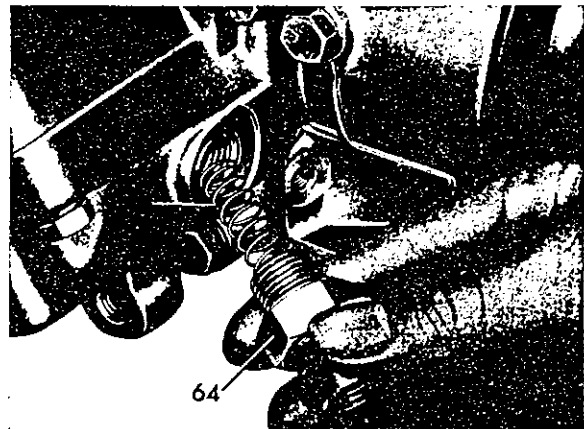

Fig. 43
In diesel engine transmissions, a plug (64) with pressure spring (65), without pressure pin, is provided in place of the vacuum cell **Fig. 43**